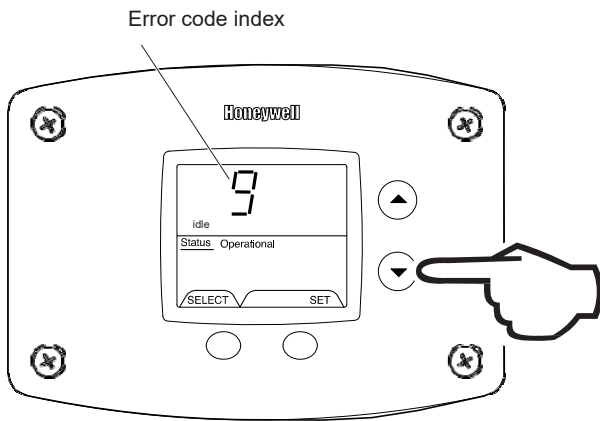

Fig. 78
4. Press the 'Temperature Down' button to change to the previous code index, code #9 (Fig. 78).